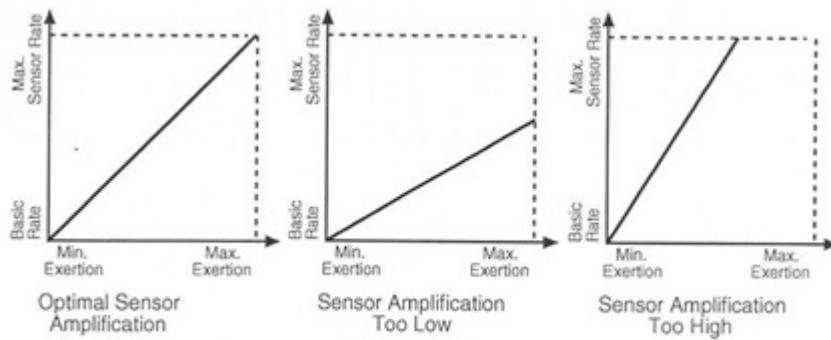

Figure 133: Sensor Gain
The Sensor Gain, also known as response factor, defines how much the sensor signal is amplified before it is transformed to a rate change. The Sensor Gain can be programmed to Auto or to a fixed setting. When the Sensor Gain is Very low (1.3), a great deal of exertion is needed to cause a significant change in sensor output and a subsequent change in the pacing rate. When the Sensor Gain is Very high (26), little exertion is needed to increase the sensor output. Ideally, the gain should be programmed so that the maximum desired pacing rate during exercise occurs at a maximum exertion level, as shown in Figure 133.